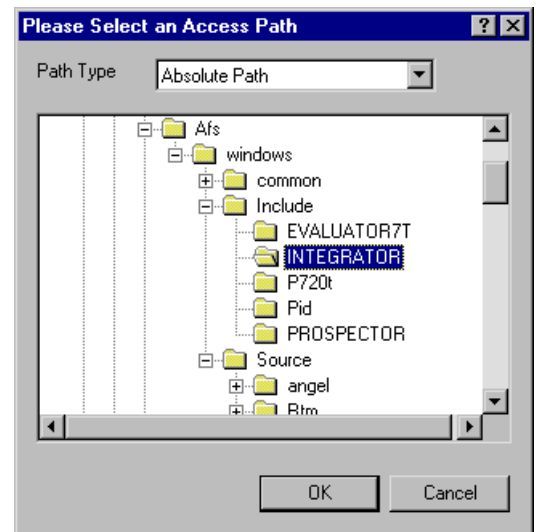

Figure 5-9 Absolute path
- f. Use **Add** to add a new path. If you are adding an absolute path, use the **Path Type** drop-down list and select absolute path (see Figure 5-9).